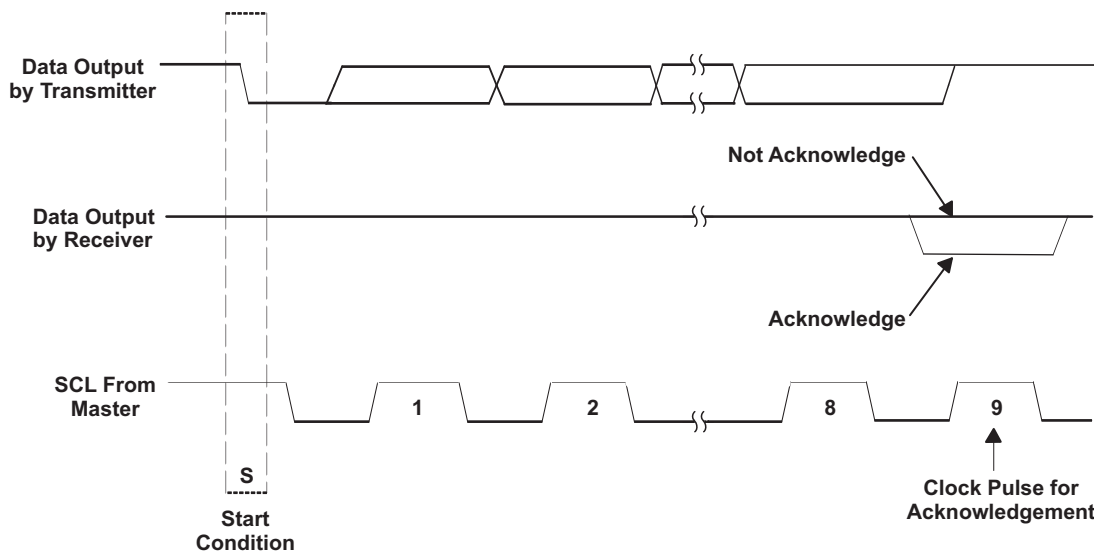

Figure 25. I2C Acknowledge
- The master then generates the SCL pulses and transmits the 7-bit address and the read/write direction bit R/W on the SDA line. During all transmissions, the master ensures that data is valid. A valid data condition requires the SDA line to be stable during the entire high period of the clock pulse (see Figure 23). All devices recognize the address sent by the master and compare it to their internal fixed addresses. Only the slave device with a matching address generates an acknowledge (see Figure 25) by pulling the SDA line low during the entire high period of the ninth SCL cycle. On detecting this acknowledge, the master knows that a communication link with a slave has been established.